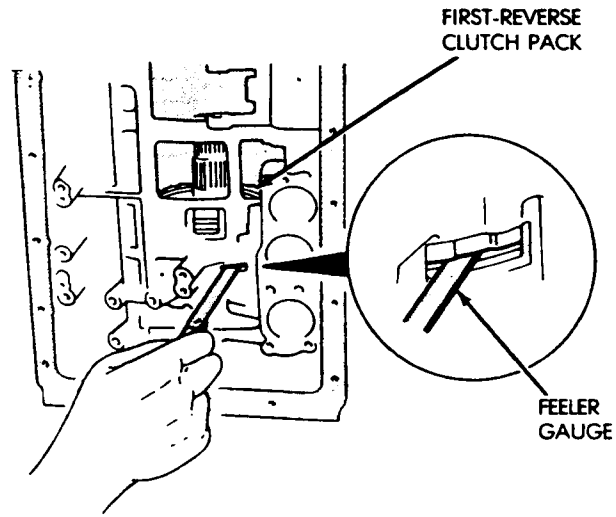

Fig. 44 Checking First-Reverse Brake Clutch Pack Clearance
(53) Measure clearance of first-reverse brake clutch pack (Fig. 44). Clearance should be: .70 to 2.00 mm (.0276 to .0787 in) on 6-cyl. transmissions and .60 to 1.74 mm (.0236 to .0685 in) on 4-cyl. transmissions. Replace discs if clearance is not as specified.